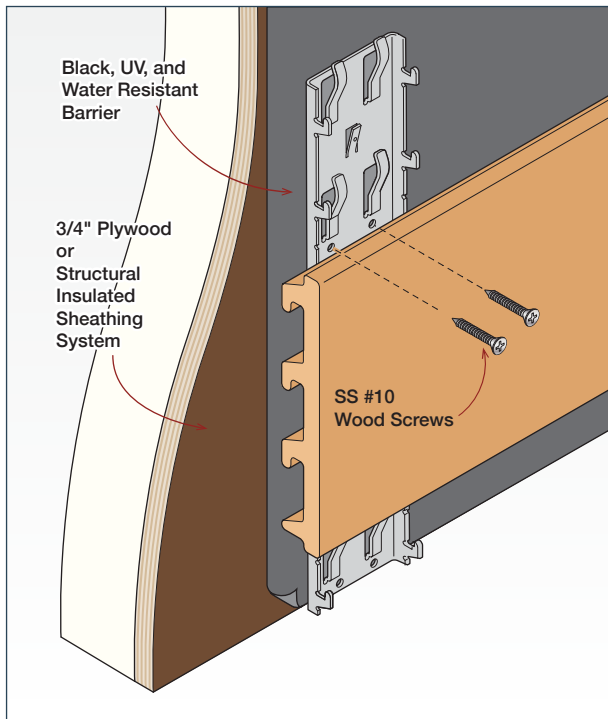

FIG. H1
a. (AFC's Recommendation) Attach 3/4" Pressure Treated Plywood or Structural Insulated Sheathing to the studs. (FIG. H1 & H2)
- Plywood Attachment (FIG H1 & H2): Use a #10 stainless steel wood screw (By AFC)